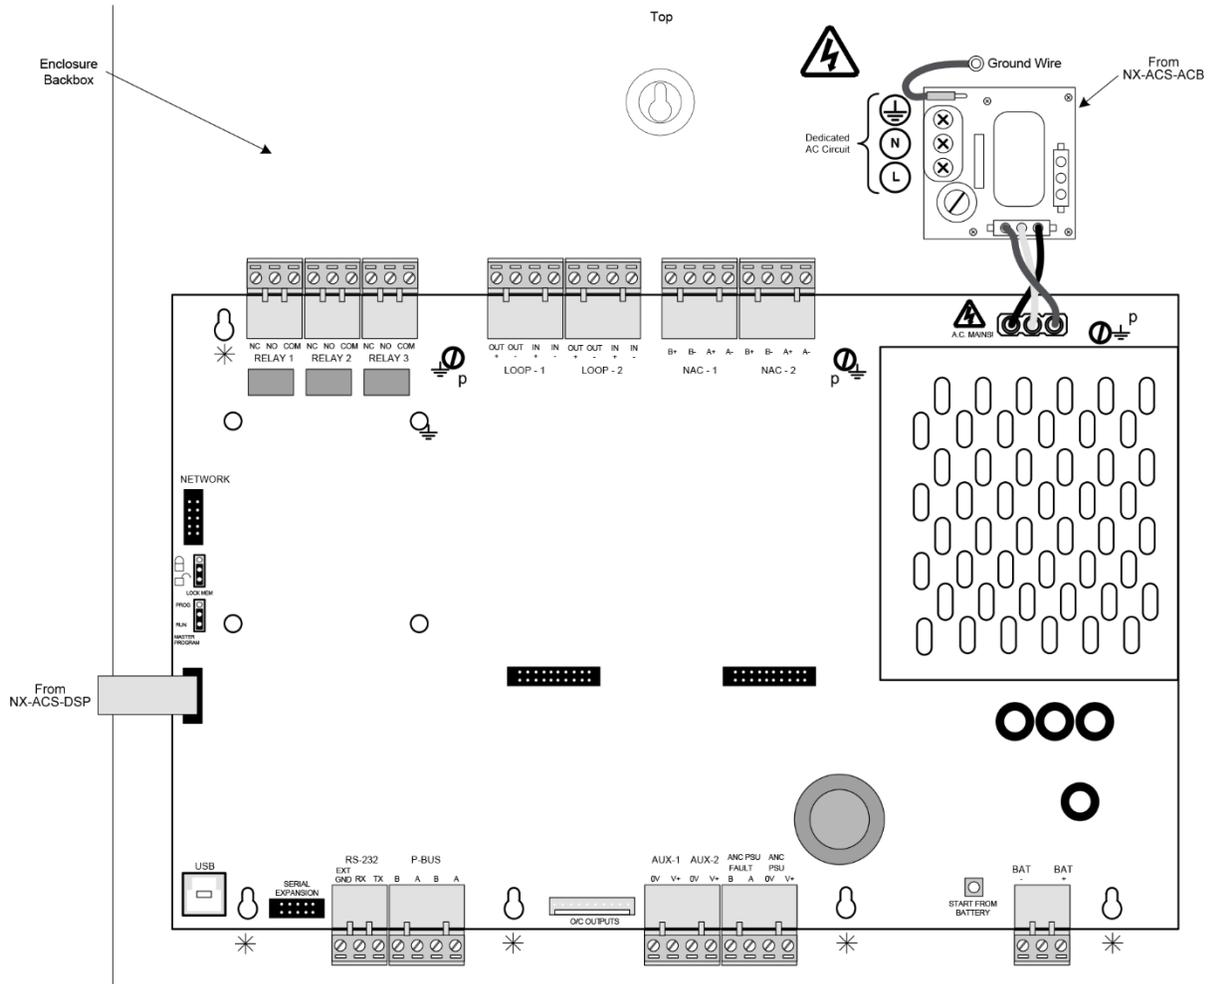

Figure 5 - NX-FACP (NX-ACS-1L / NX-ACS-2L) Base Card
- \* The NX-FACP base card is hung on five top-hat (screw-less) standoffs [ ] and secured with three (3) screws [p] (see figure 5). It is critical when replacing the base card that these screws are tightly secured as they are required for proper earth ground connection.